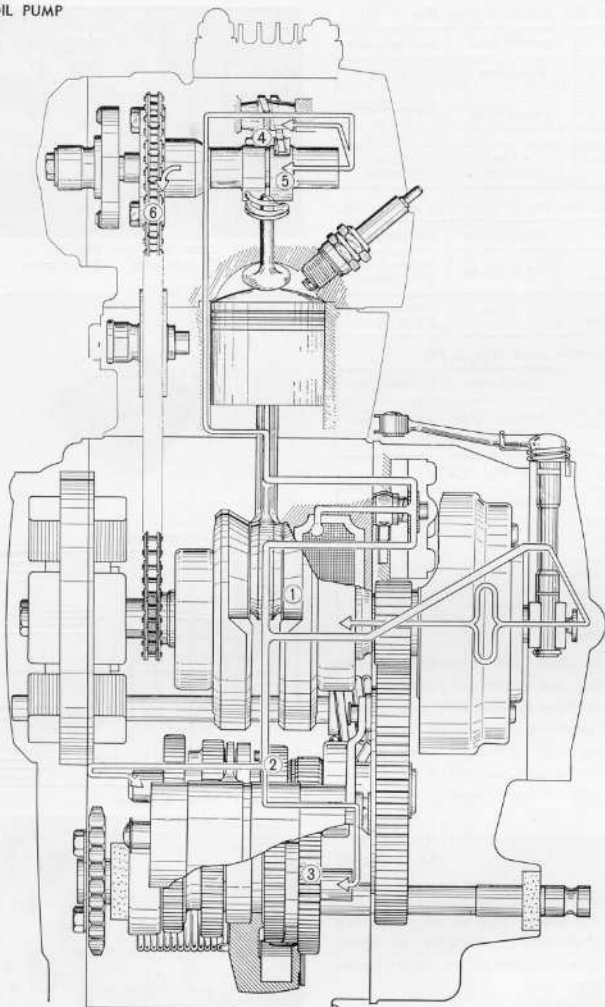

Fig. 3.73 Flow of lubricating oil
The other route: the oil is piped through the passages in the right crankcase and the crankcase cover where it is further branched so that one of the route lubricates the crankshaft and component parts, and the other is routed to the hollow in the camshaft where the moving parts within the cylinder head such as the rocker arm ④, camshaft ⑤, and lubricates the cam chain ⑥ on its way back to the sump. The moving parts such as gears, bearings which are not lubricated by pressure are lubricated by oil splash and spray. (Fig. 3.73)